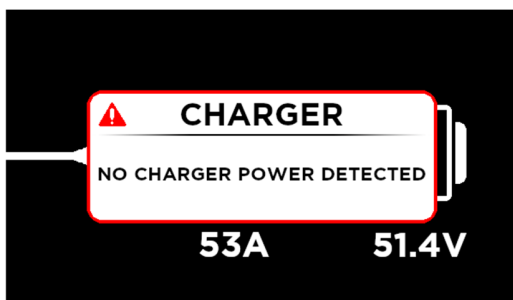
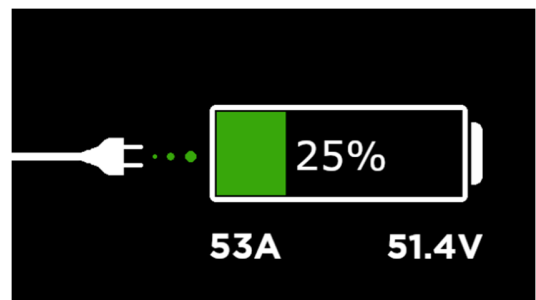

Fig. G1
Fig. G2
- A fault code **“NO CHARGER POWER DETECTED”** will come up on display screen until the charger is turned on (Fig. G1). If state of charge is over 95% fault code will not display. Fault code goes away once charger is plugged in and screen displays charging current, amps and display battery pack voltage (Fig. G2). Display will automatically turn off after 15 minutes, but charger will continue to charge. To wake display while charging to see current state of charge, press the push button start and display will come back on or push again to turn display off.